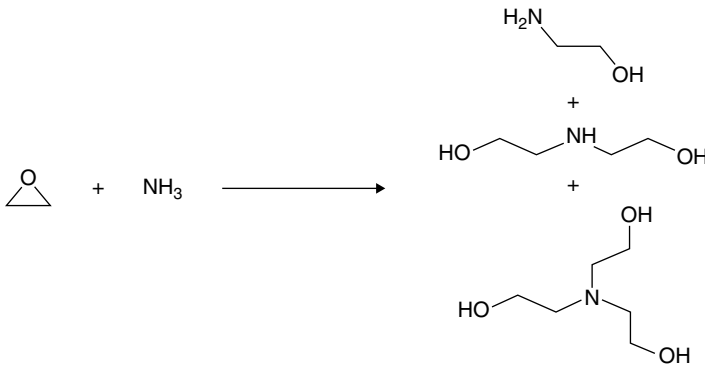

Figure 4.7 Reactions of ammonia with ethylene oxide to produce ethanol amines.
- 3) Change the selectivity reactor conditions to produce one product in favor of another. An example here might be the reaction of ethylene oxide with ammonia to produce a class of materials we call ethanolamines. These compounds are extremely effective in absorbing carbon dioxide (CO_2) and hydrogen sulfide (H_2S) from sour natural gas to produce “sweet” gas, which can then be put into the natural gas pipeline distribution system. The chemistry used to manufacture these amines is shown in Figure 4.7.